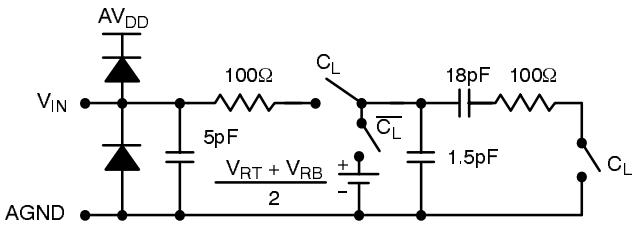

Figure 8. Equivalent Input Circuit
- ⁵ See V_{IN} equivalent circuit (Figure 8.). Switched capacitor analog input requires driver with low output resistance.
This part has a switched capacitor type input circuit. This means that the input impedance changes with the phase of the input clock. Figure 8. shows an equivalent input circuit.